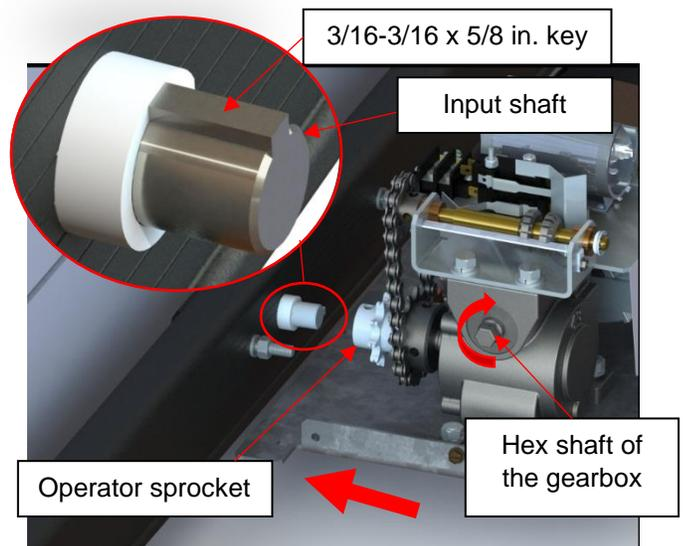

Figure 79
- 12) Install the 3/16-3/16 x 5/8 in. square key into the motorside's input shaft's keyway. (Figure 79)
- 15) Align the keyways of the input shaft and operator's sprocket together by turning the hex shaft of the gearbox. (Figure 79)
- 16) Insert the motor-side's input shaft into the sprocket. (Figure 79)